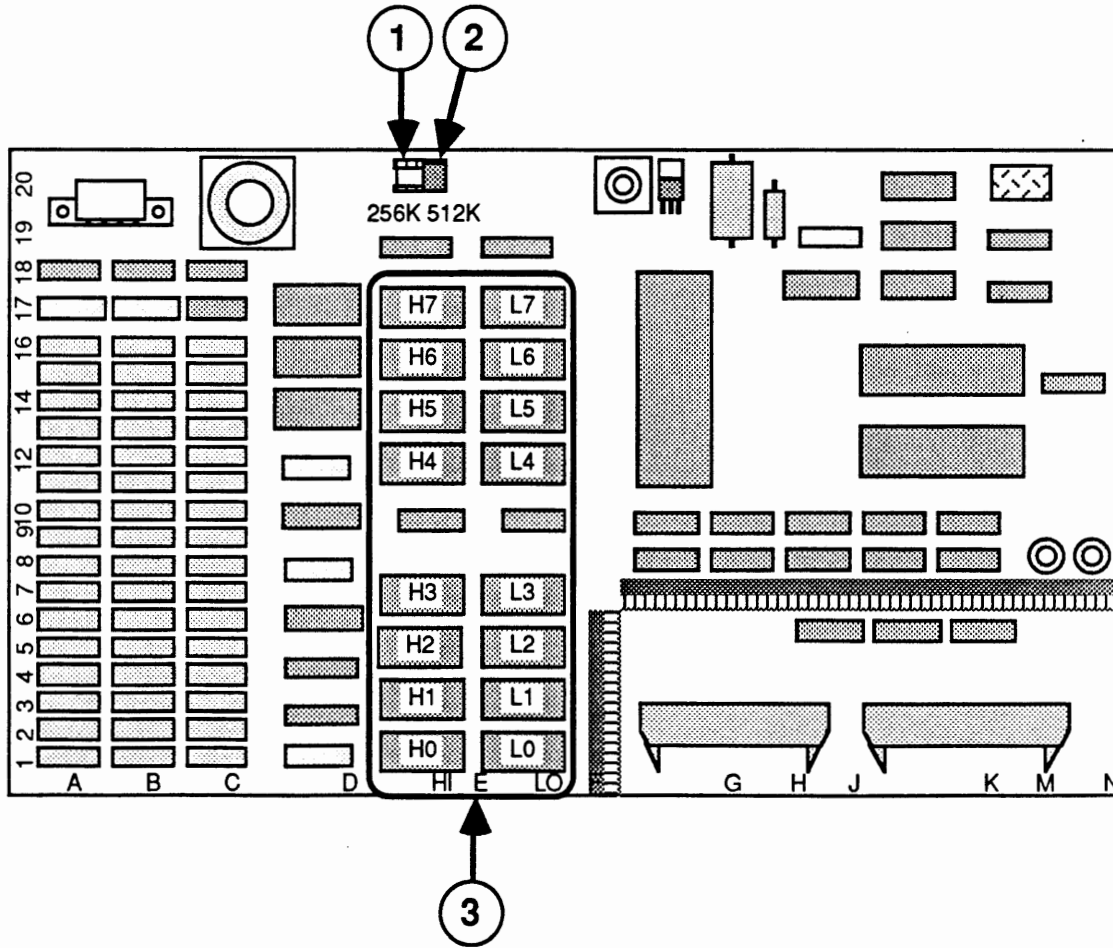

FIGURE 1
5. The upgrade kit includes a 16-pin socket. Newer LaserWriter I/O boards with 512K or 1M ROMs already have the socket and configuration block installed. If you have an older board without the socket, you must solder it on the I/O board at position E-20 (see Figure 1, #1). To install the socket, follow the directions below:
If you have the 256K/512K I/O board (Figure 1), install the configuration block into the eight holes of the socket labeled "512K" (Figure 1, #2).